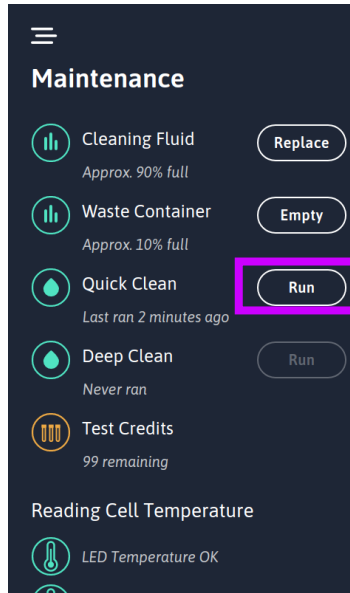

Figure 16
16. Perform three wash cycles by pressing the “Maintenance” Button and pressing Quick Wash in Figure 16.